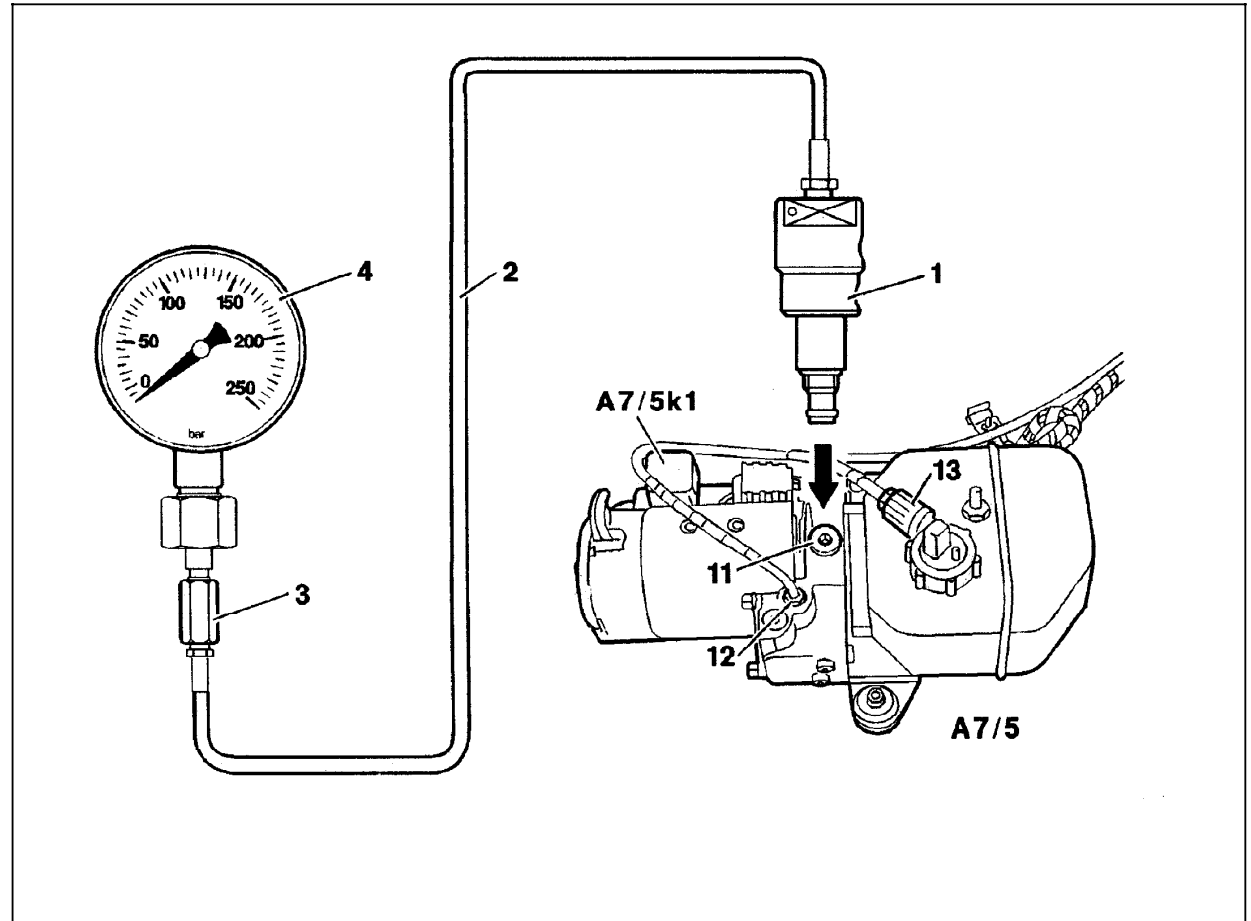

Figure 4
- A. Connection of test equipment to hydraulic unit (Figure 4).
**Ignition ON:** Activate power soft top switch (toward lower if the soft top is down, toward raise if the soft top is up) for 5 seconds. Have a second technician disconnect relay (A7/5k1, Figure 4). Hold power soft top switch for 5 additional seconds. Read and record test pressure.
**Ignition ON:** Activate RB switch (toward lower if the roll bar is lowered, toward raise if it is raised) for 5 seconds. Have a second technician disconnect relay (A7/5k1, Figure 4). Hold roll bar switch for 5 additional seconds. Read and record test pressure.
| 1.0 |   | Checking system pressure(Figure 7) | Connect pressure gauge according to connection diagram (Figure 4). | <p>Starting point: soft top completely closed</p> <p>Ignition: ONPress and hold RB switch to retract roll bar. Have a second technician unplug relay (A7/5k1, Figure 4) after 5 sec. Keep switch depressed an additional 5 sec.</p> <p>Read test pressure:</p> <p>Release test pressure:Press soft top switch briefly several times.</p> | 120 – 200 bar | &lt;120 bar:⇒ 2.0 |
| 2.0 |   | <p>Testing RST/RB hydraulic unit (A7/5)(Figure 8)</p> | <p>Connect pressure gauge according to connection diagram (Figure 4). Disconnect hydraulic line no. 12 from hydraulic unit (Figure 4). Seal connection with threaded plug 129 589 00 91 03.</p> | <p>Soft top completely closed</p> <p>Ignition: ON</p> <p>Press and hold RB switch to retract roll bar. Have a second technician unplug relay (A7/5k1, Figure 4) after 5 sec. Keep switch depressed an additional 5 sec.</p> <p>Read test pressure:</p> <p>Release test pressure:Press soft top switch briefly several times.</p> | <p>180 – 200 bar</p> | <p>Nominal values ok:⇒ 3.0.</p> <p>&lt; 180 bar:Replace hydraulic unit (A7/5) (SMS, Job No. 77-350).</p> |
| 4.0 |   | <p>Checking locks(Figure 10)</p> | <p>Connect pressure gauge according to connection diagram (Figure 4).</p> <p>Disconnect hydraulic line no. 41 from valve block (Y56/1). Seal connection with threaded plug 129 589 00 91 01.</p> | <p>Soft top completely closed</p> <p>Ignition: ON</p> <p>Press and hold RB switch to retract roll bar. Have a second technician unplug relay (A7/5k1, Figure 4) after 5 sec. Keep switch depressed an additional 5 sec.</p> <p>Read test pressure:</p> <p>Release test pressure:Press soft top switch briefly several times.</p> | 120 – 200 bar | <p>Nominal values ok:⇒ 4.6</p> <p>&lt;120 bar:⇒ 4.1</p> |